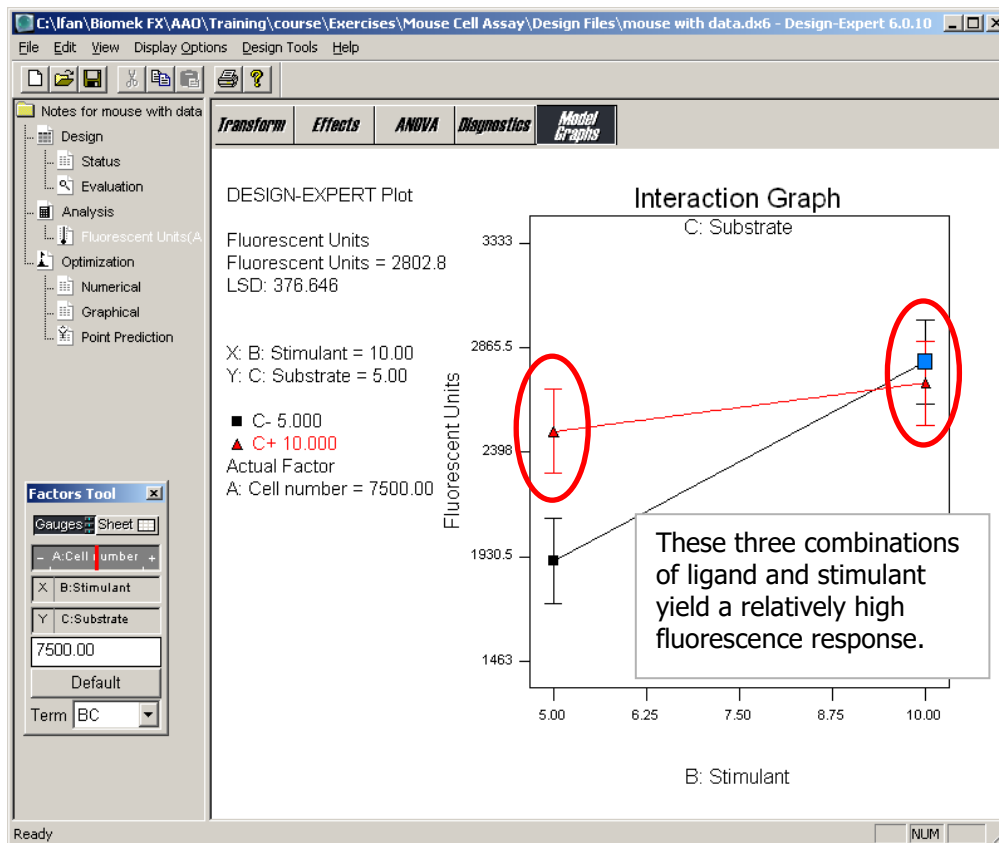

Figure 7: Interaction graph shows the combinations of stimulant and ligand that yield the best fluorescent values.
revealed as outliers on this plot. This case study revealed a statistically significant interaction between the amount of stimulant (B) and the amount of ligand (C). After generating the appropriate analysis of variance as confirmation of the effects plot, model graphs were generated to show the final results (Figure 7). This interaction graph reveals that the experimenter should avoid the combination "B-, C-" which causes a significant reduction in fluorescence. The other combinations are acceptable.